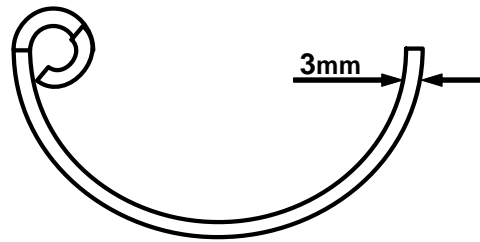

Figure 6: Bodkin to help lacing
3: A curved bodkin as shown in Figure 6 can help lacing, particularly of diaphragms
- 3:** A curved bodkin as shown in Figure 6 can help lacing, particularly of diaphragms